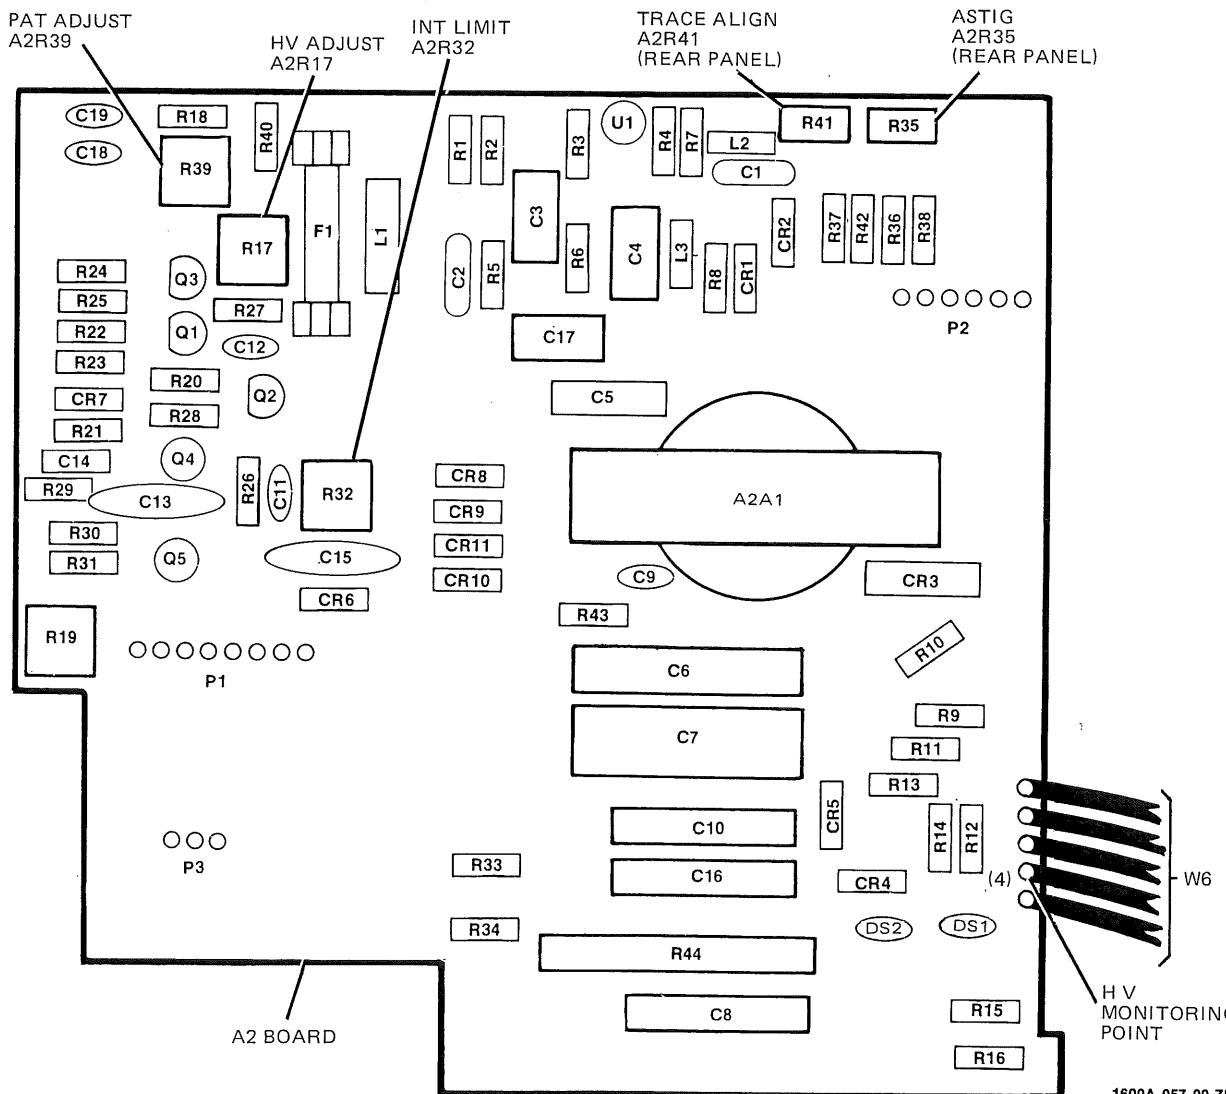

Figure 5-12. High Voltage and Display Adjustment Locations
**5-25. HIGH VOLTAGE SUPPLY ADJUSTMENT. (Refer to schematic 3 and figure 5-12.)**
**5-26. DISPLAY ADJUSTMENTS. (Refer to schematics 3 and 21, and figures 5-12, 5-13, and 5-14.)**